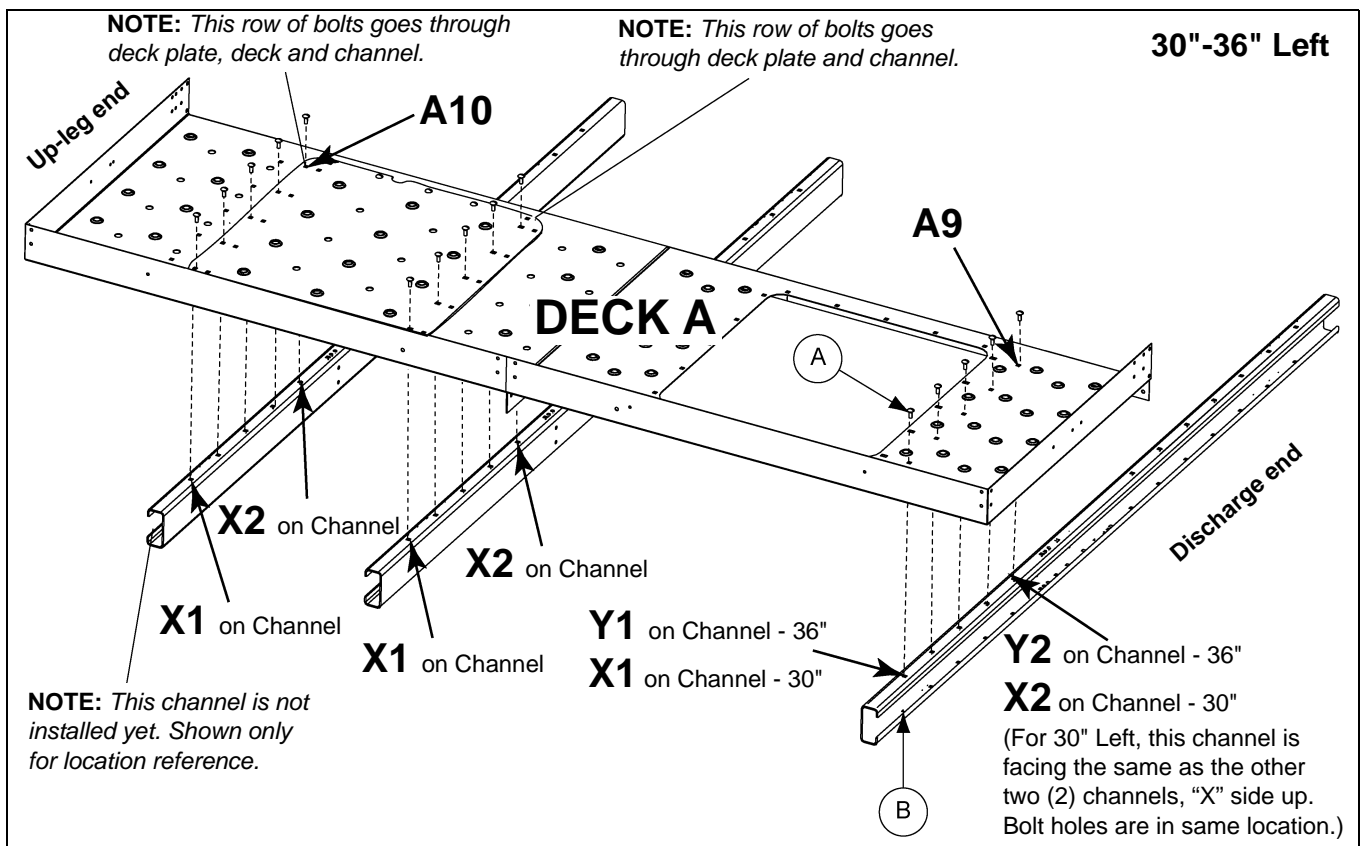

Figure 9H
3. On the **Discharge End**, use a punch as needed to line up. (See Figure 9H.)
- b. At the **hatch side** - Channel hole **X2** on the cross deck support channel to Deck A hole **A10** and deck plate cover. (See Figure 9H on Page 74.)